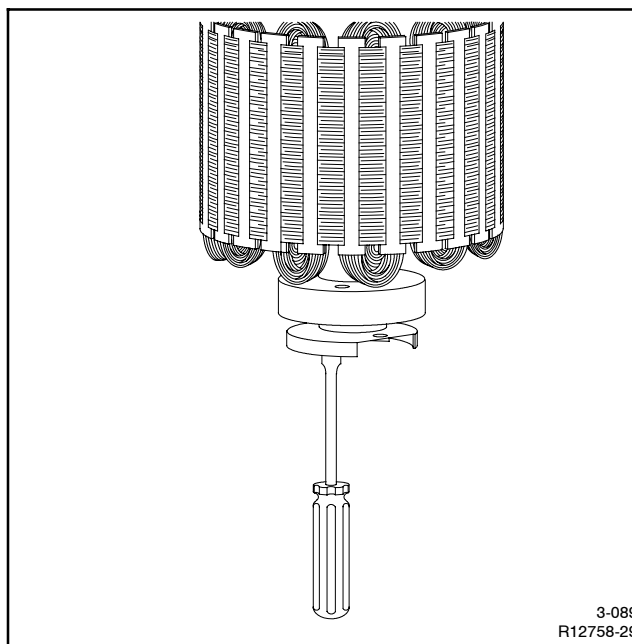

Figure 4-16 Mounting Photo Transistor Board and
12. Attach the photo transistor circuit board and magnetic actuator to the end of rotor shaft with two mounting screws. See Figure 4-16. Cut off excess lead wire, leaving enough wire to reach the SCR assembly. Strip 50–75 mm (2–3 in.) of gray insulator jacket from the lead. Cut off all exposed uninsulated wire. Strip about 0.6 mm (1/4 in.) of insulation on red and black leads and crimp on #8 electrical terminals (part no. X-283-7).